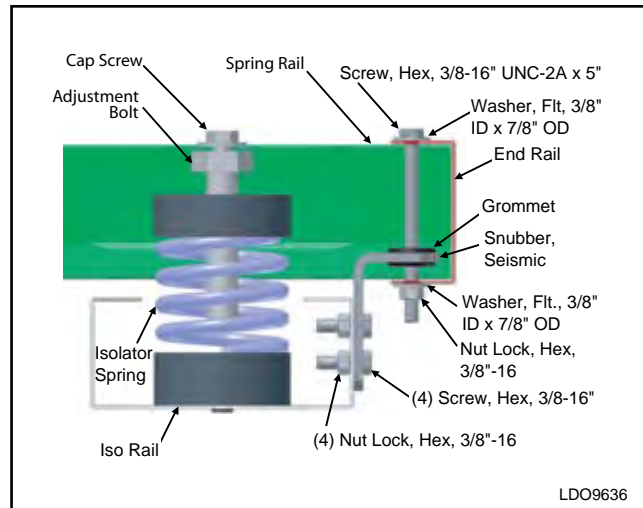

FIG. 3-6 – SEISMIC SNUBBER
Do not remove functional bolts from seismic isolators (see Fig. 3-6).
- Fig. 3-6 shows isolator with seismic snubber restraint option.